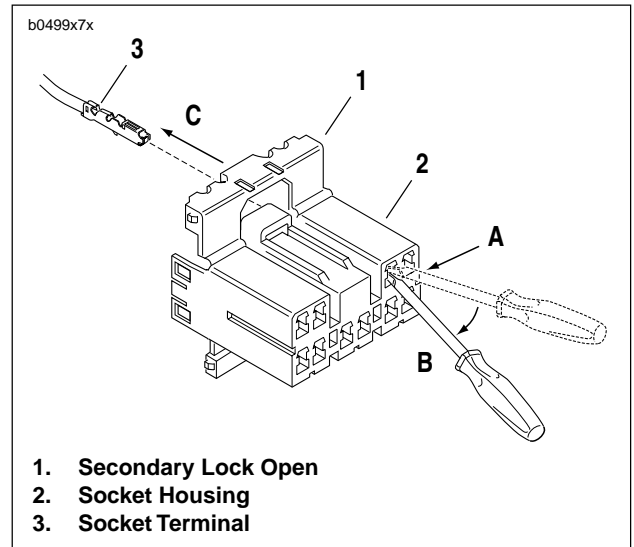
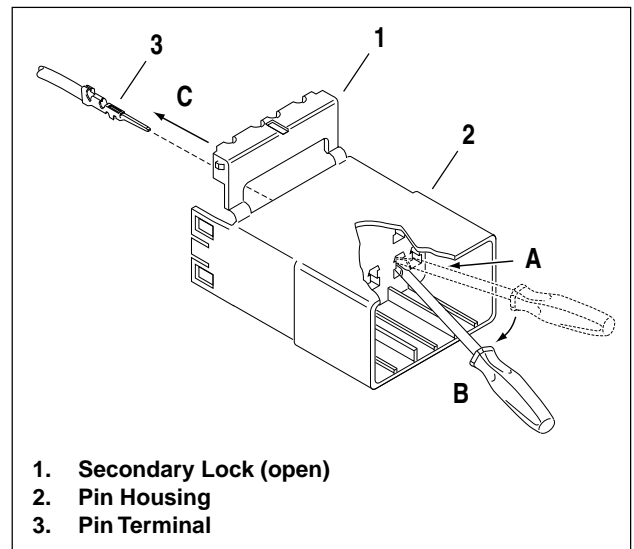

Figure 7-80. Socket Terminals
Figure 7-81. Pin Terminals
7. Remove socket terminal (Figure 7-80) or pin terminal (Figure 7-81).
- a. If installing socket terminals, see Figure 7-80.
- b. If installing pin terminals, see Figure 7-81.